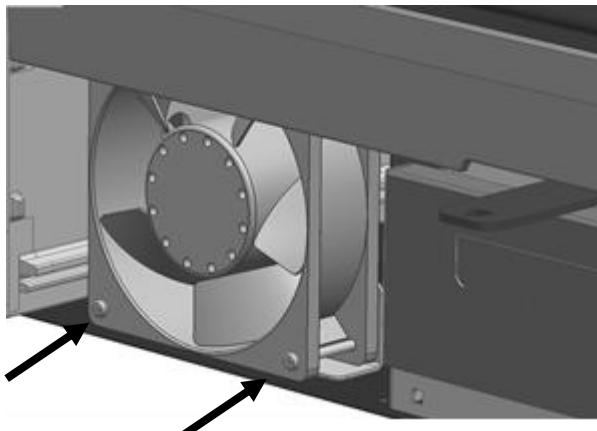

Fig.2
8. Loosen the screws that secure the fans (Fig. 2).